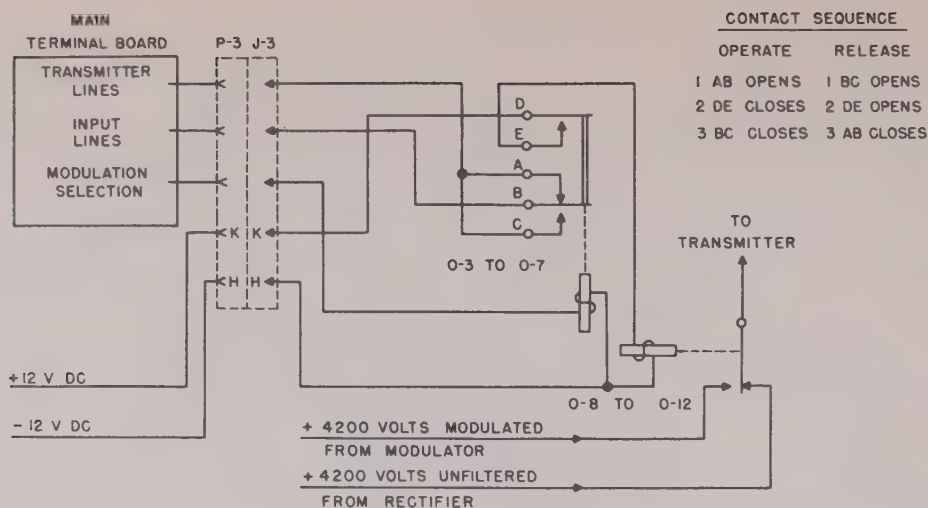

Figure 51. Rectifier Power Unit Model 36D, simplified schematic diagram of high-voltage switching unit
f. High-Voltage Switching Unit (fig. 51). The high-voltage switching unit contains 10 relays, 0-3 through 0-12. These relays are divided into two banks of five each. One bank, transmitter disabling relays 0-3 through 0-7, controls the operation of the other bank, high-voltage switching relays 0-8 through 0-12. The operation of relays 0-3 through 0-7 is controlled from a remote control unit, such as Remote Control Console Type CS-212. When a particular transmitter is selected for use by the operator at the remote control station, the coil of one of the relays (0-3 through 0-7) is energized. The sequence of relay operation (fig. 51) is as follows: When the relay (0-3 through 0-7) is energized, contacts AB open, thus opening the transmitter keying line. Contacts DE close, connecting the coil of the high-voltage switching relay (0-8 through 0-12) to the 12-volt supply. When the high-voltage switching relay operates, the transmitter is disconnected from the 4,200-volt unfiltered d-c supply and connected to the 4,200-volt modulated supply. Contacts BC of the transmitter disabling relay close, reconnecting the transmitter to the keying line. Thus, relay 0-3 con-